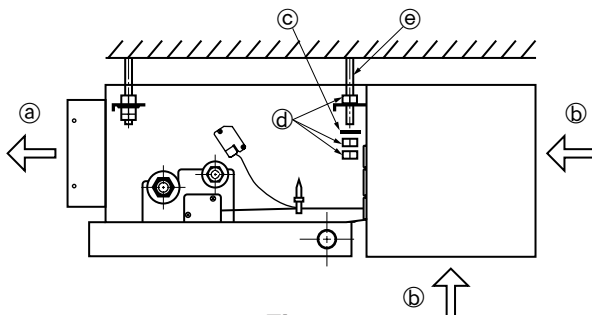

Fig. 4-3
4.2. Suspending the unit (Fig. 4-3)